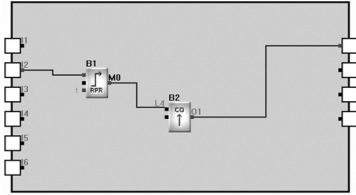

Fig 4.12
- a. With automatic link, as the mouse is moved to I/O ports of the blocks, its shape will change into a “+”, indicating that an link port by click, click it and move to I/O port of the next block and then click, this link is complete, as shown in Fig. 4.12.